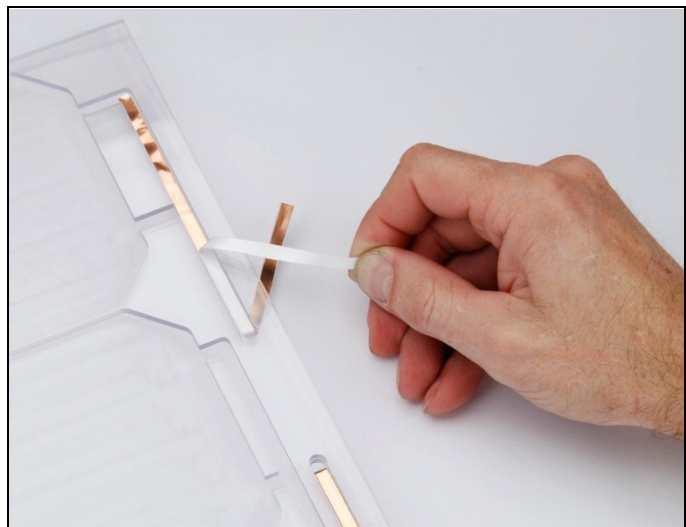

Figure 8
- ✓ Place the single bus-bar in groove "D" as shown in Figure 8.